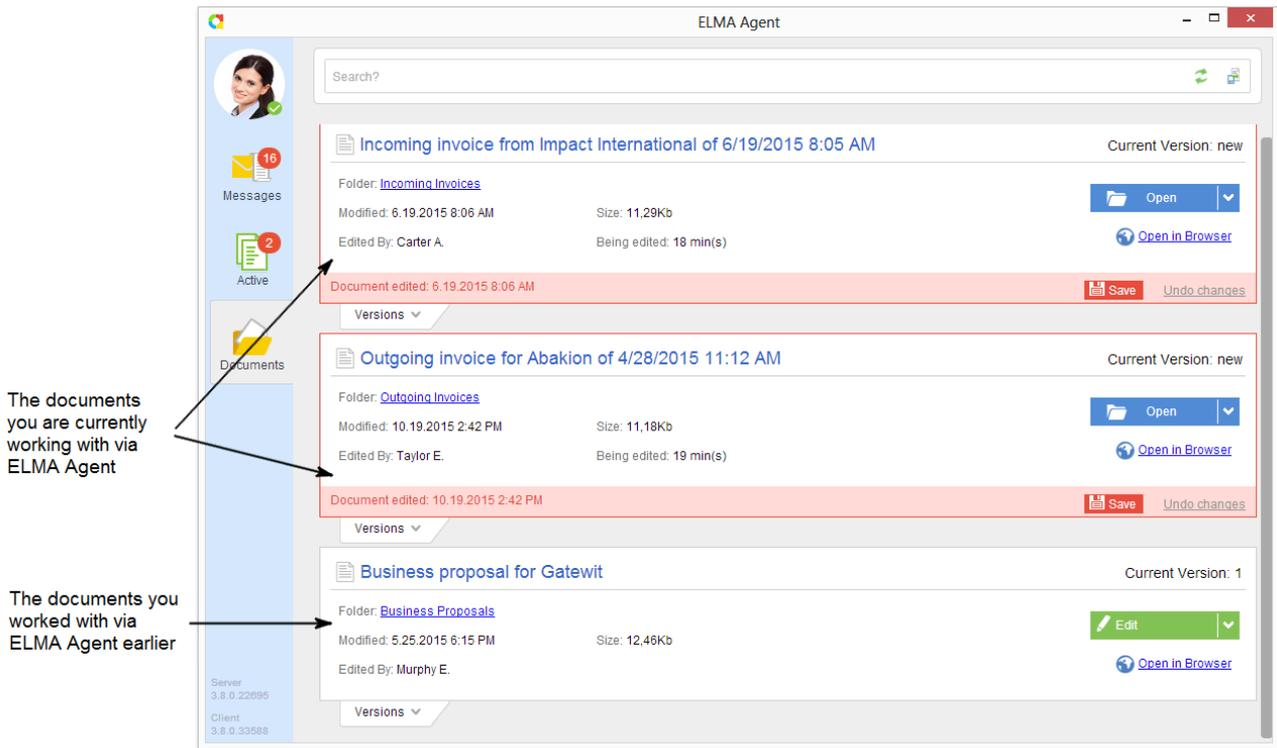

Fig. 239. The Documents tab of ELMA Agent
- **Documents** tab shows the list of all the documents once opened with **ELMA Agent** (Fig. 239).